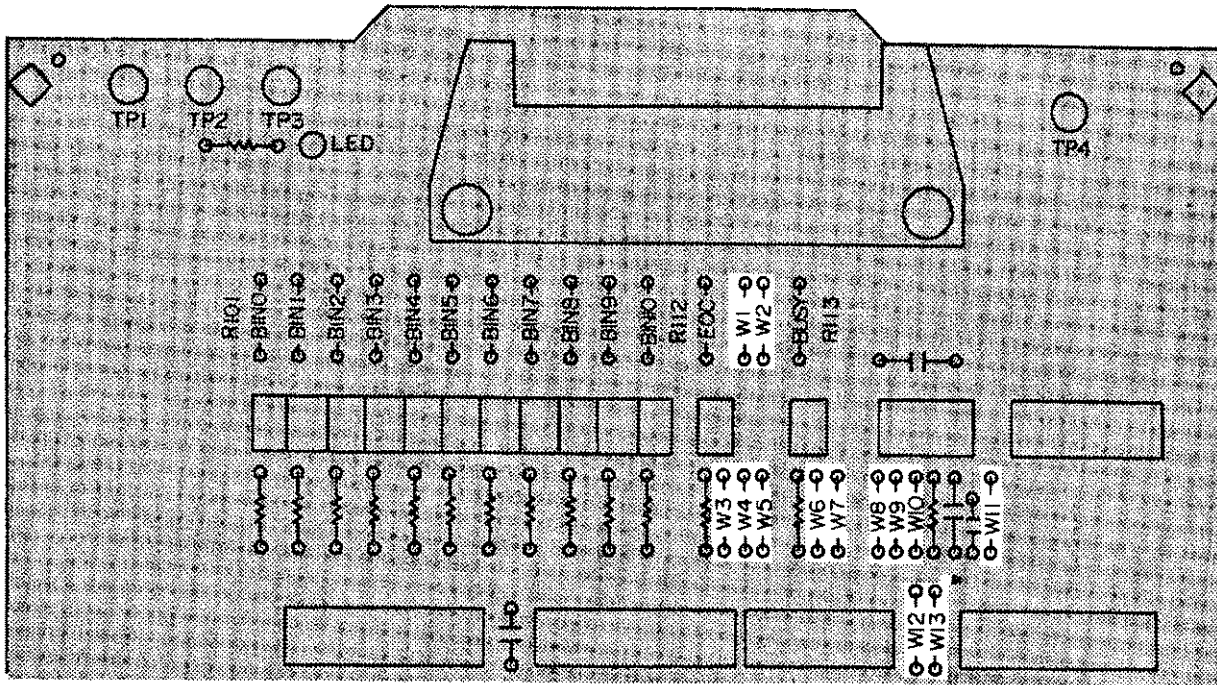
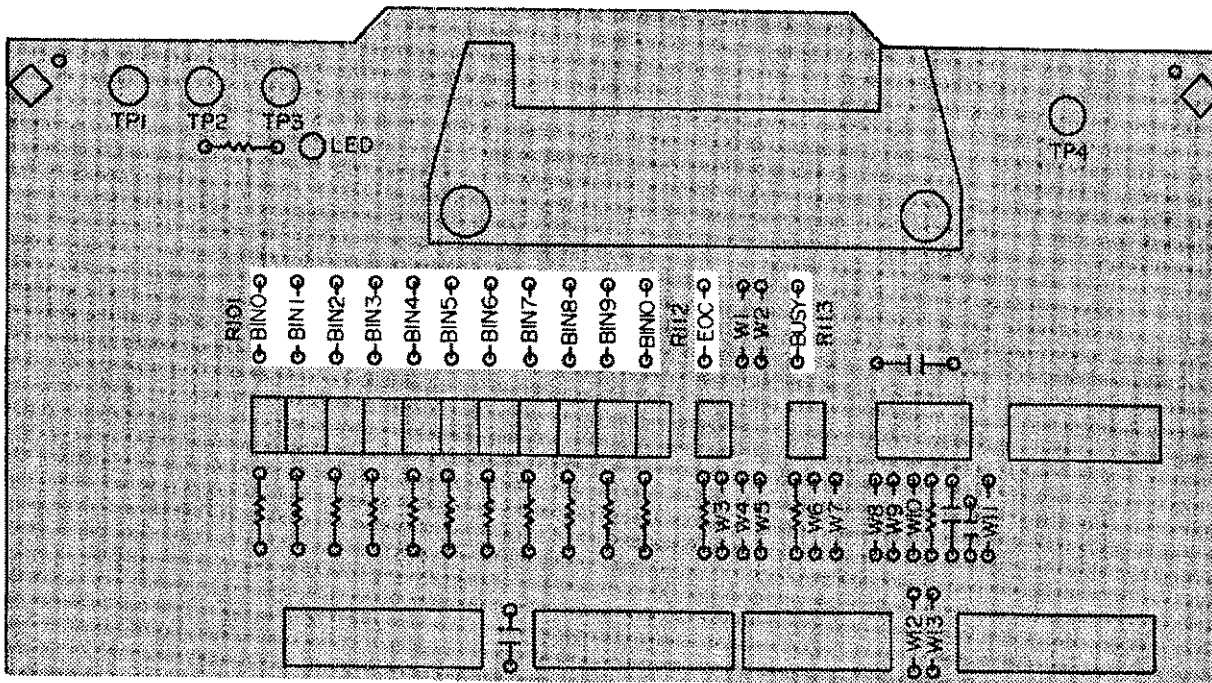
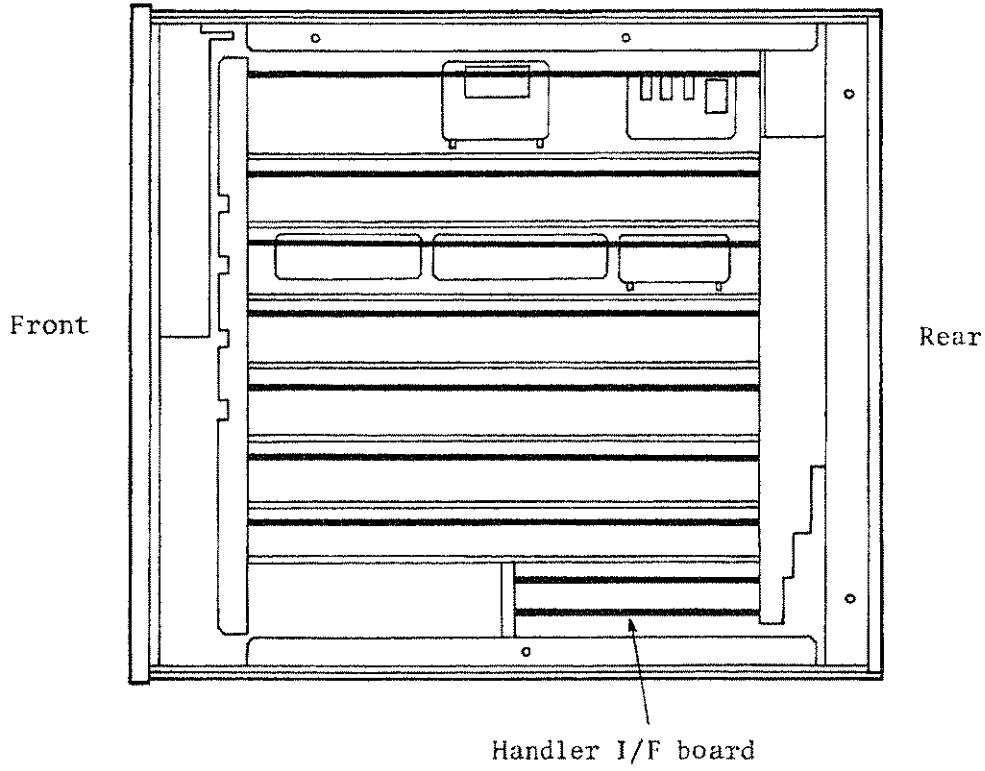

Figure 4-20. Configuration Jumper Locations
Figure 4-21. Pull-Up Resistor Locations
Figure 4-22. Handler Interface Board Location
Setting up the Option 202 Handler Interface board consists of installing jumpers and pull-up resistors as required. Table 4-14 lists the jumpers and pull-up resistors to install for various handlers on the market. Figure 4-20 shows the locations of the handler interface jumpers, Figure 4-21 shows the locations of the pull-up resistors on the handler interface board, and Figure 4-22 shows the location of the handler interface board in the 4278A.
The handler interface has **Brown** and **Orange** extractors. Refer to Figure 4-22 for the location of the handler interface board.
7. If the comparison output signals are TTL levels signals and these signals are not pulled up by the handler, determine the pull-up resistor value (1.78K is recommended) and referring to Figure 4-21 for the locations of the BIN pull-up resistors, install the pull-up resistors.
8. If the control outputs (**EOC**, **BUSY**) are to be TTL level signals and these signals are not pulled up by the handler, determine the pull-up resistor value (1.78K is recommended) and referring to Figure 4-21 for the locations of **R112** (**EOC**) and **R113** (**BUSY**) install the pull-up resistors.
10. Use Figure 4-20 to locate the location of the required jumpers and install the jumpers.
12. Use Figure 4-20 to find the location of the required jumpers and install the jumpers.